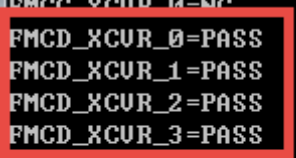

Figure 4-5 The test result of the transceiver loopback
10. The test result will be displayed after the test time has elapsed (See Figure 4-5). It should be noted that this test code will test all the transceivers of the FMC A and FMC D connectors on the TR5 board (8 pairs of transceivers for each connector). Since XTS-FMC card can only test 4 pairs of transceivers. So the test result will only show the first four transceivers (0~3) of FMC A or FMC D are PASS or NG. Other transceiver test results can be ignored.